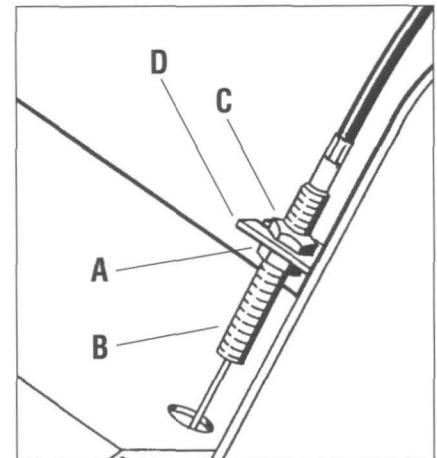
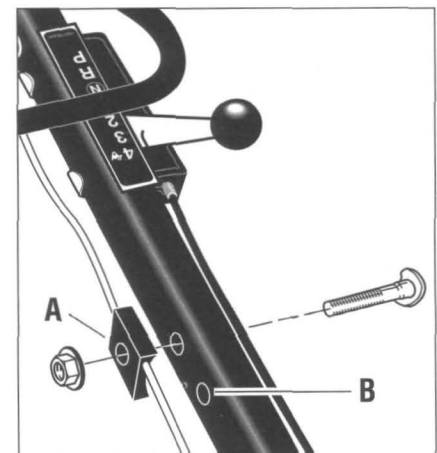

Figure 5-11: Lower jam nut (A), adjuster (B), upper jam nut (C) and cable bracket (D).
Figure 5-12: Wheel drive bail cable clamp (A) and secondary adjustment hole (B).
2. To tighten a loose drive belt, use a 1/2" open-end wrench to loosen the lower jam nut (A, Figure 5-11) on the adjuster (B). Loosen the nut 2 or 3 full turns.
3. Pull the cable up until the lower jam nut rests against the cable bracket (D) and then tighten the upper jam nut (C) against the cable bracket.
4. Tighten the lower jam nut (A) against the cable bracket (D).
8. If further adjustments to the cable are impossible because you have run out of threads on the adjuster, a secondary set of adjustments can be obtained by repositioning the wheel drive bail cable clamp (A, Figure 5-12) to the lower hole (B) in the handlebar, as follows:
- b.) Fully loosen the upper jam nut (C, Figure 5-11) and slide the cable downward.